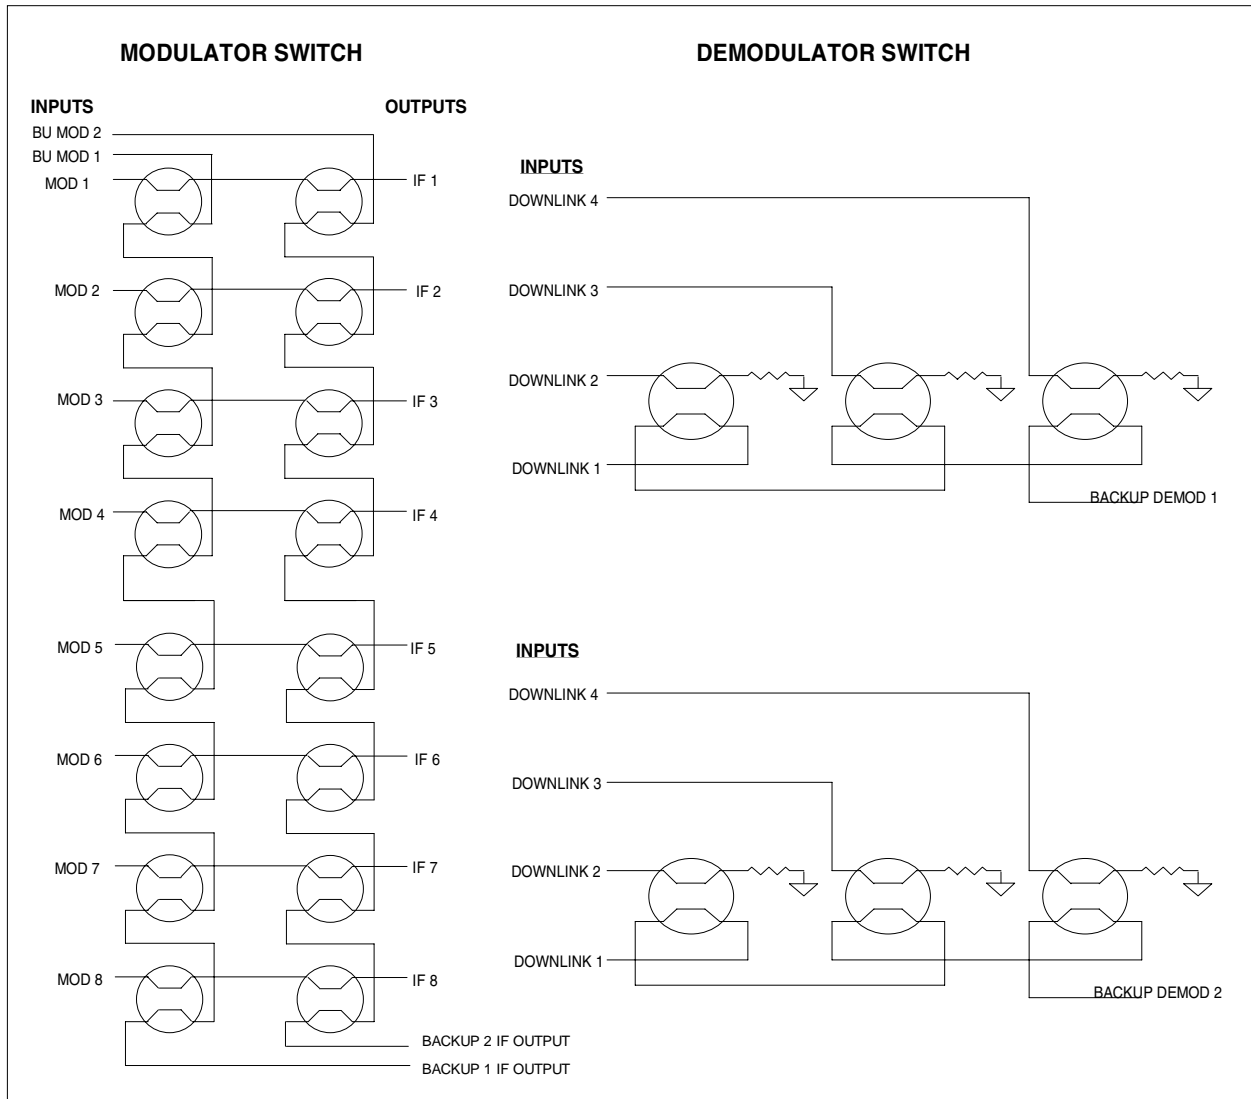

Figure 1-4. SMS-758 IF Switching Matrix
- Serial remote interfaces, relay-remote/fault, modulator and demodulator status, and IF connections accessible from the rear panel. Figure 1-4 is a block diagram of the IF switching matrix.